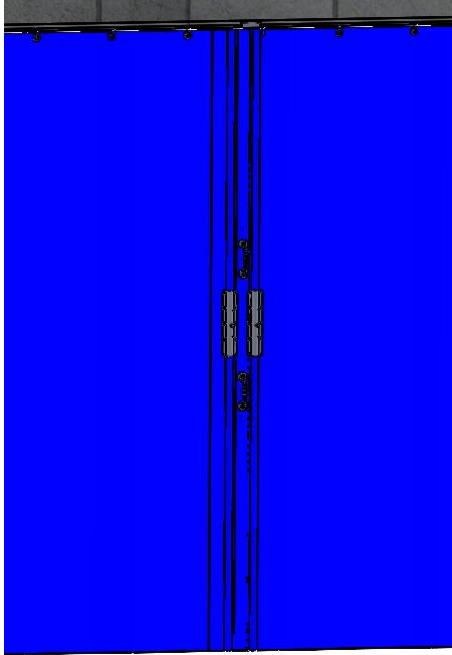

Figure 4. Stretch and Plumb Curtain, Mark and Drill Floor
4. Ensure that the Curtain is plumb front to back, then mark the pole locations on the floor. (Figure 4. Stretch and Plumb Curtain, Mark and Drill Floor)
5. For each Cam Lock Pole, drill a $\frac{3}{4}$ " hole about 1" deep into the floor at this location. (Figure 4. Stretch and Plumb Curtain, Mark and Drill Floor)